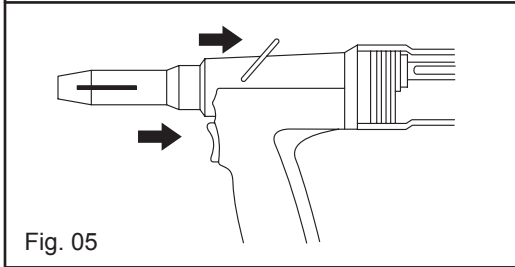

Fig. 05
5. Press the trigger (Fig. 05) to pull the rivet (wear eye protection).